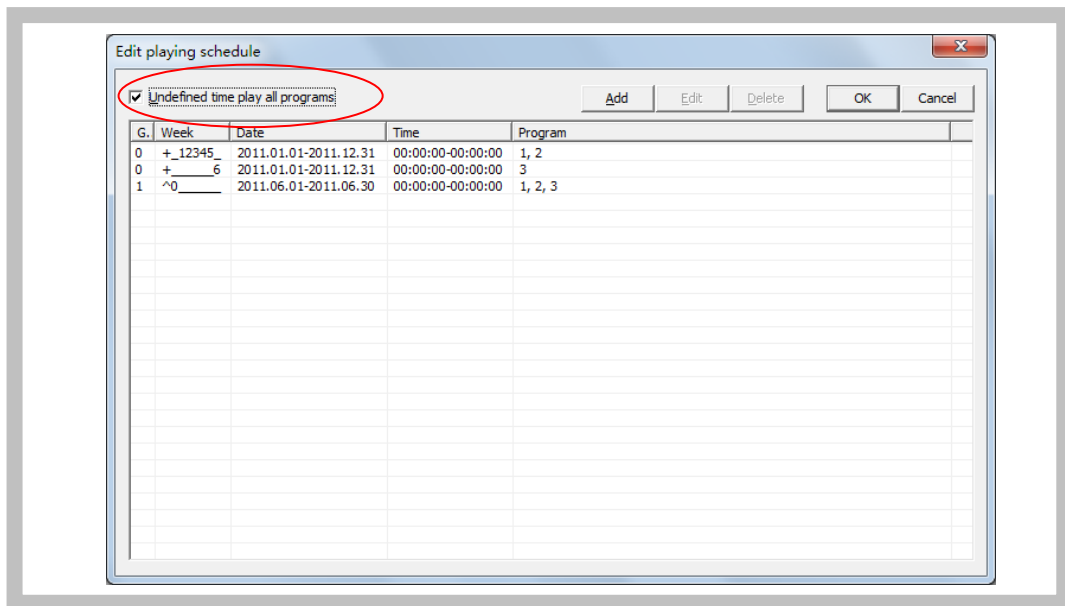

Figure41 Playing schedule list
1) Click “Edit” – “playing schedule” in menu, pops out the “Edit playing schedule” dialog box, as Figure41 shown